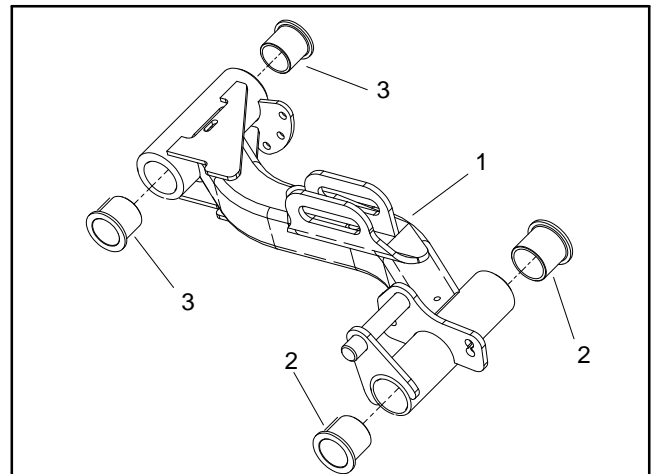

Figure 22
7. Remove lynch pin (item 12) and thrust washer (item 13) from rear of pivot yoke. Slide pivot yoke assembly from lift arm. Locate and retrieve front thrust washer (item 13).
8. Remove two (2) flange head screws (item 6) that secure spring catch to machine. Remove spring catch, torsion springs (items 23 and 24), two (2) spacers (item 1) and two (2) washers (item 25).
11. Inspect bushings in lift arm and pivot yoke for wear or damage. If necessary, replace bushings (Figs. 22 and 23).